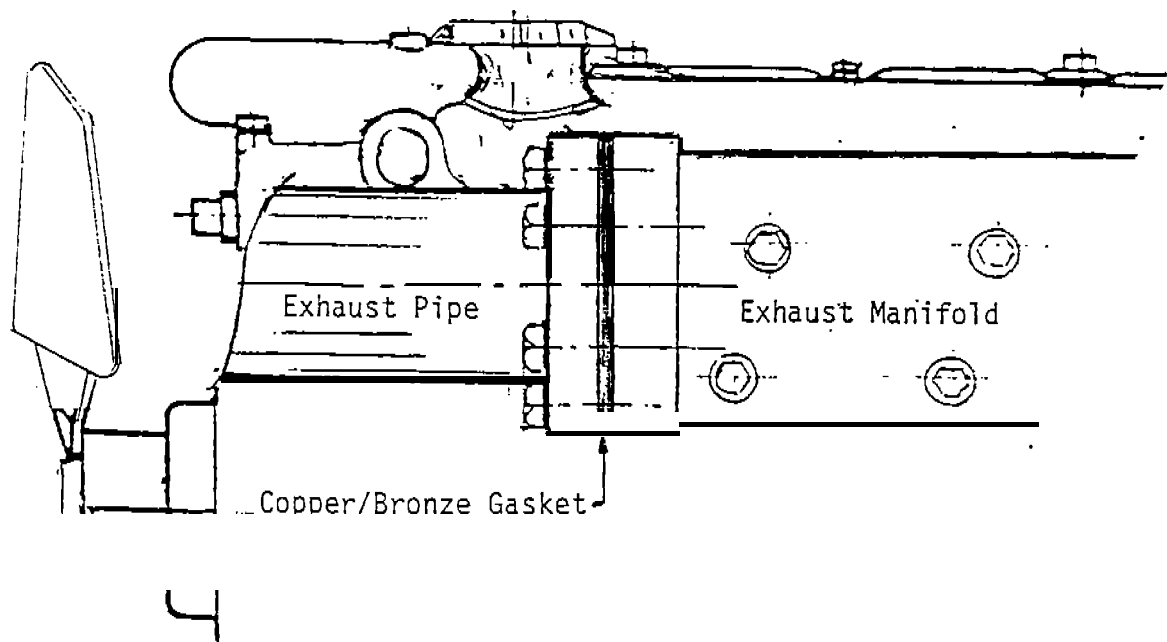

Figure 8. Gasket Between Exhaust Pipe and Exhaust Manifold Flange
- (WEEKLY) 13. () A copper or bronze gasket is installed between the flange of the exhaust pipe and the flange of the exhaust manifold as shown in Figure 8.